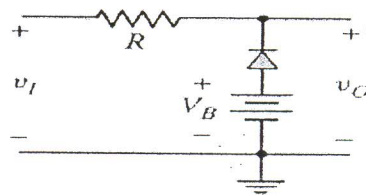

Figure 2
- (d) Consider the clipper circuit in figure 2. Assume the diode is silicon and use the practical model. Draw v_O , the output voltage and indicate all peaks numerical values. Given $V_B = 7.0V$ and the input, v_I is a pure sinusoidal waveform of amplitude 10.0 Volts. (2 marks)